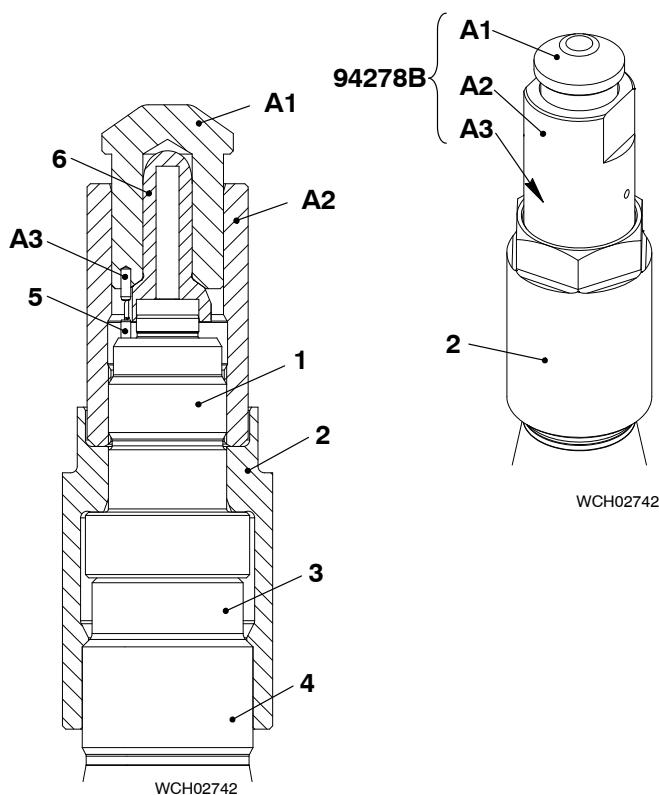

Fig. 5
- 1) Attach the nozzle body (1, Fig. 5) with coupling nut (2) to the injection valve (4) on the injection test bench.
- 2) Make sure the dowel pin (5) is installed.
- 3) Attach the guide bush (A2, 94278B) to the nozzle body (1).
- 4) Put the nozzle tip (6) into the cylinder (A1, 94278B). Align the recess in the nozzle tip with the dowel pin (A3).
- 5) Put the cylinder (A1) and the nozzle tip (6) into the guide bush (A2).
- 6) Turn the cylinder (A1) until the recess of the nozzle tip aligns with the dowel pin (5).